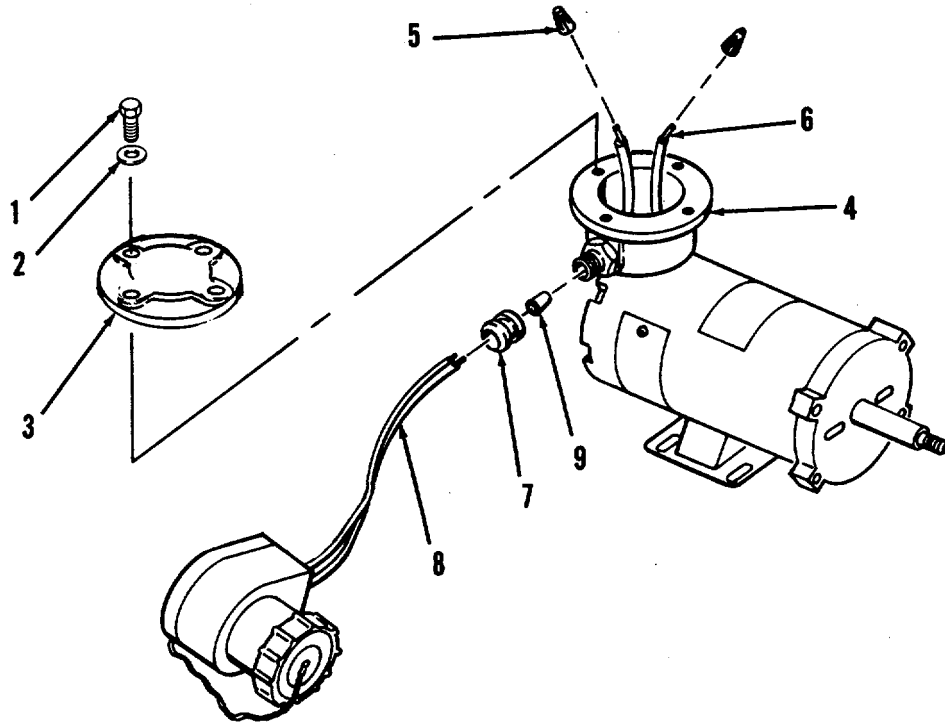
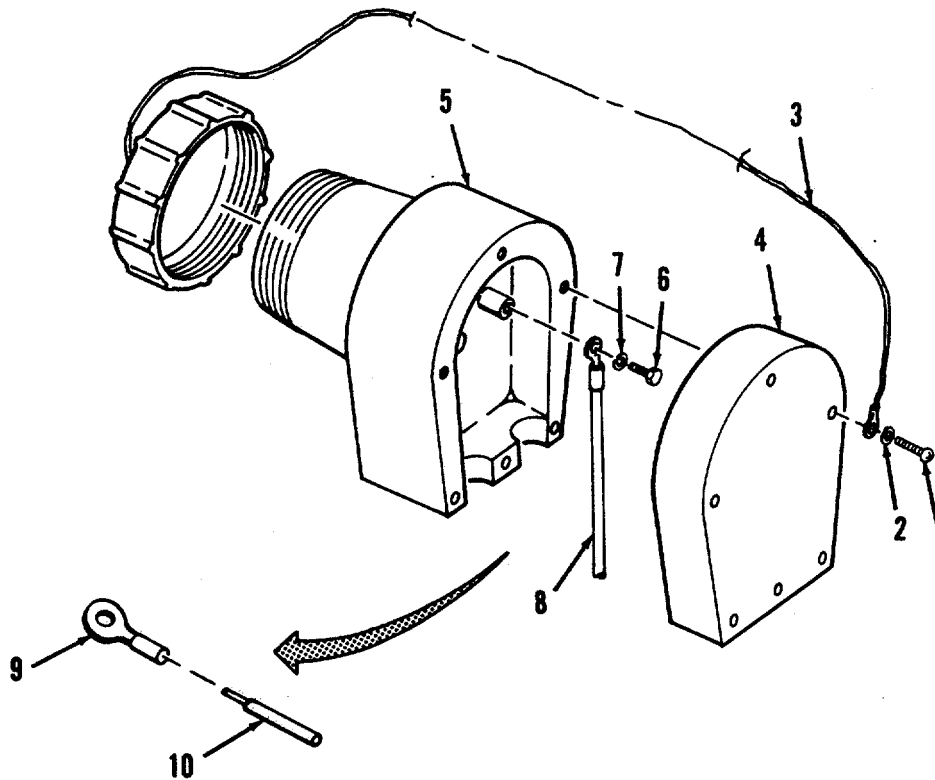

Figure 4-4. Slave Cable Replacement.
Figure 4-5. Slave Cable Repair.
a. Removal (Refer to Figure 4-4).
- (1) Remove four bolts (1), four washers (2), and junction box cover (3) from motor junction box (4).
- (2) Remove two wire nuts (5) from motor wires (6).
- (3) Remove strain relief nut (7), disconnect slave cable wires (8) from motor wires (6), and pull slave cable wires through strain relief.
- (4) Remove rubber seal (9) and strain relief nut (7) from slave cable wires (8).
b. Disassembly. (Refer to Figure 4-5).
- (1) Remove six screws (1), six flat washers (2), cap retaining cable (3), and cover (4) from receptacle (5).
- (2) Remove two bolts (6), two lock washers (7), and two wire assemblies (8) from receptacle (5).
- (3) Thoroughly remove all RTV sealant from two wire assemblies (8).
c. Installation. (Refer to Figure 4-4).
- (1) Place strain relief nut (7) and rubber seal (9) on slave cable wires (8).
- (2) Install slave cable wires (8) into motor junction box (4). Pull about 6" of slave cable wires through strain relief nut (7).
- (3) Snug rubber seal (9) down to strain relief. Tighten strain relief nut (7).